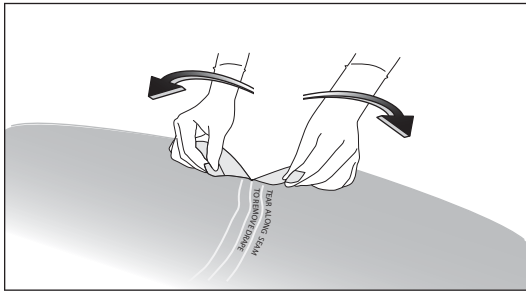

Figure 16
- Removal procedure: Tear along seam (refer to Figure 16).